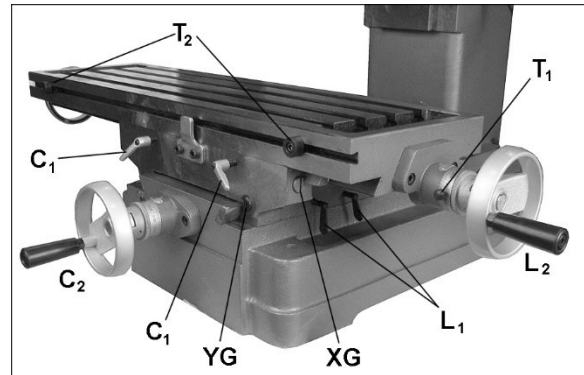

Figure 7-3: table and gib adjustments
See Figure 7-3.
1. The X-axis gib adjustment screw (XG, Figure 7-3) is found on right side of saddle beneath table. The Y-axis gib adjustment screw (YG, Figure 7-3) is found to the right on the table face.